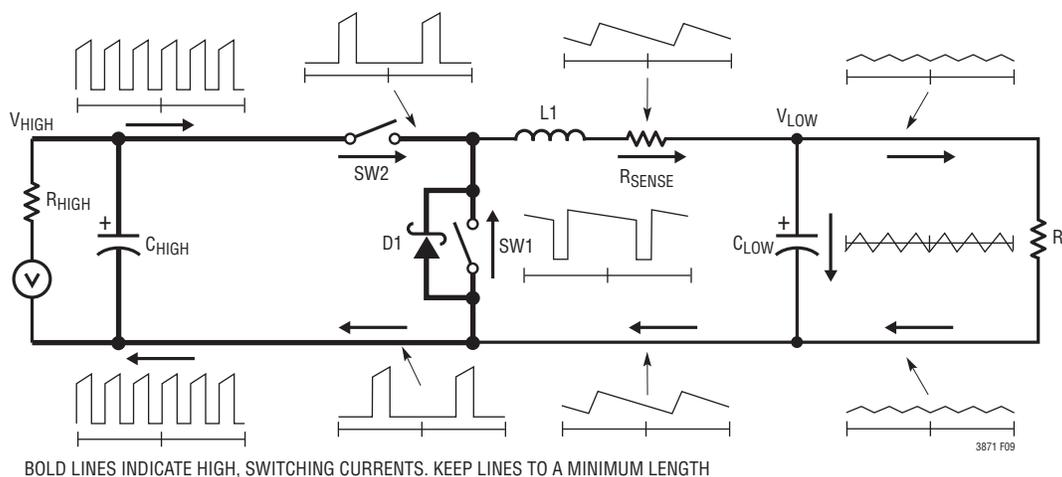

Figure 9. Branch Current Waveforms (Buck Mode Shown)
When laying out the printed circuit board, the following checklist should be used to ensure proper operation of the IC. These items are also illustrated graphically in the layout diagram of Figure 9. Check the following in the PC layout:
8. The 47pF to 330pF ceramic capacitor between the ITH pins and signal ground should be placed as close as possible to the IC. Figure 9 illustrates all branch currents in a switching regulator. It becomes very clear after studying the current waveforms why it is critical to keep the high switching current paths to a small physical size. High electric and magnetic fields will radiate from these loops just as radio stations transmit signals. The output capacitor ground should return to the negative terminal of the input capacitor and not share a common ground path with any switched current paths. The left half of the circuit gives rise to the noise generated by a switching regulator. The ground terminations of the synchronous MOSFET and Schottky diode should return to the bottom plate(s) of the input capacitor(s) with a short isolated PC trace since very high switched currents are present. External OPTI-LOOP[®] compensation allows overcompensation for PC layouts which are not optimized, but this is not the recommended design procedure.